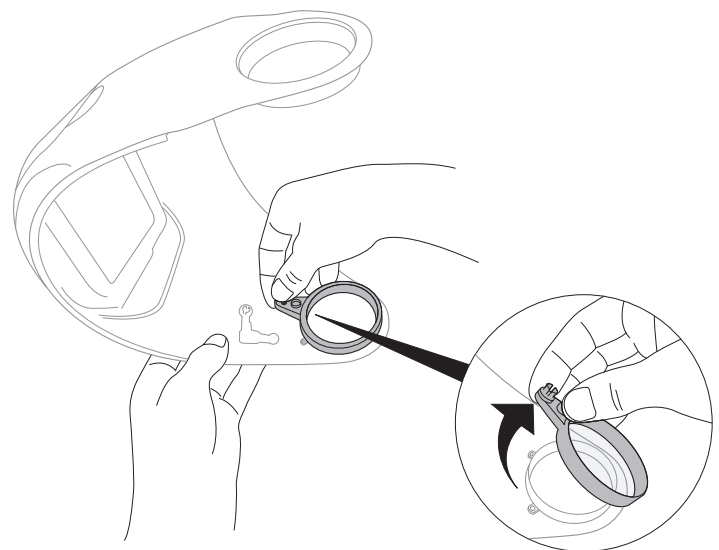

Fig. 16a
- b. Grasp the pivot ring by its pivot point and pry it off its circular post. There are small ridges that help keep the ring in place, so a small amount of upward pressure may be necessary (Fig. 16a).